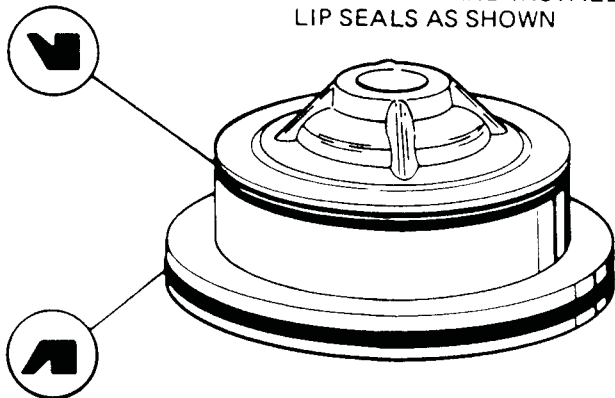
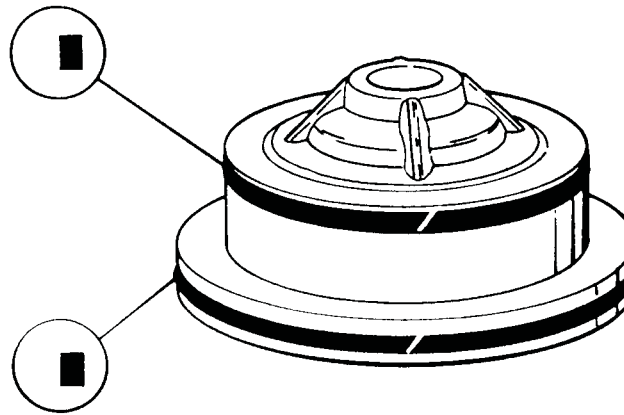

Figure 111
Figure 112
2. Install new seals on the intermediate servo piston as shown in either Figure 111 or Figure 112, depending on which type of piston and seals that you are using.